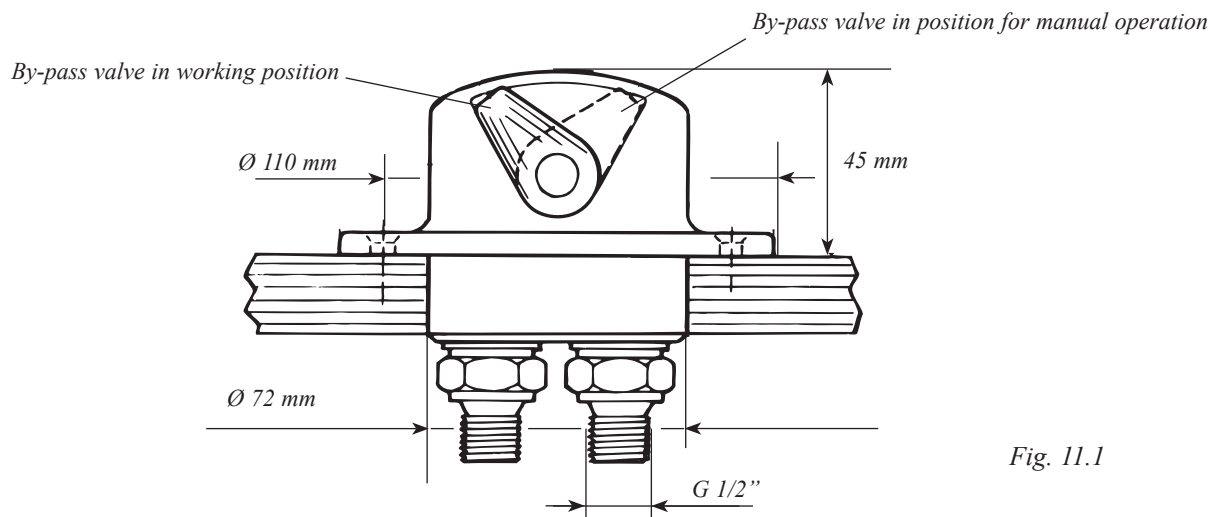

Fig. 11.1
5. Siting of the through-deck fitting is to your choice. *Send measurements A and B to Seldén Mast AB or your dealer.* We will then make up the two hydraulic hoses for the motor. See fig. 11.1 for the through-deck fitting dimensions. A $\text{Ø } 72 \text{ mm}$ hole through the deck is required.
The main installation dimensions are shown in fig. 11.1.
2. Connecting threads are G 1/2". (See fig. 11.1).